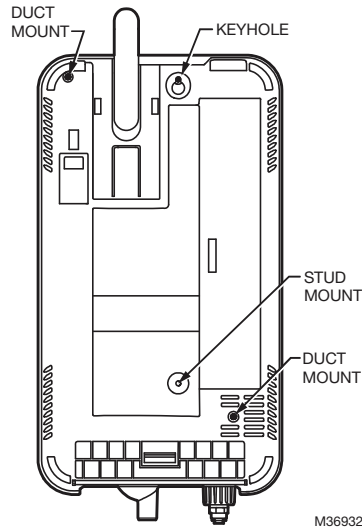

Fig. 12. Mounting locations. (Rear view)
The HM750 has a keyhole and three additional mounting holes as shown in Fig. 12.
1. Remove the humidifier cover and pull out the cylinder. Insert the top screw until 1/4 in. (6 mm) is exposed. Hang the humidifier via its keyhole on the screw head (see Fig. 12).
2. After making sure the humidifier is level, affix it to the stud with another screw at the lower stud-mount location (Fig. 12).
4. After making sure the humidifier is level, secure it to the duct using two screws at the duct-mount locations (Fig. 12), and then replace the cover.